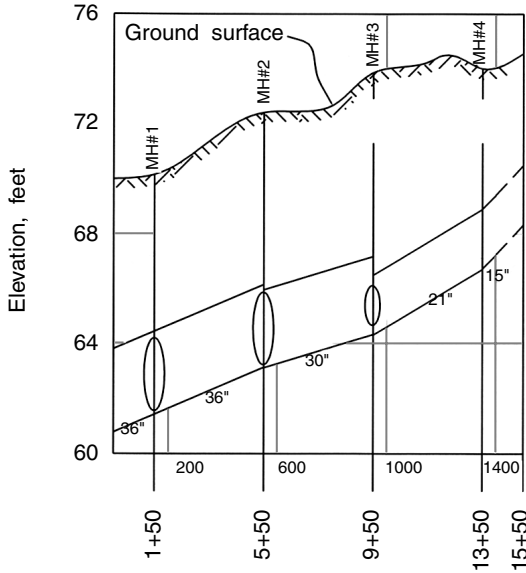

FIGURE S-2 Sewer profile example.
**Sewer** A channel or conduit that carries wastewater or stormwater runoff from the source to a treatment plant or receiving stream. *See also* combined sewer; sanitary sewers; storm sewers. *See* Figures S-2 and S-3. **Sewerage** is the collection, conveyance, treatment, and disposal of liquid wastes; same as **sewer system**. For **sewer appurtenances**, *see* appurtenances. For **sewer atlas**, *see* atlas. For **sewer authority**, *see* sewer district.
locations, energy and hydraulic gradelines, and tributary lines. Typically, the horizontal scale is between 1:500 and 1:1000, and the vertical scale is 10 times greater. *See* Figure S-2; hydraulic profile.